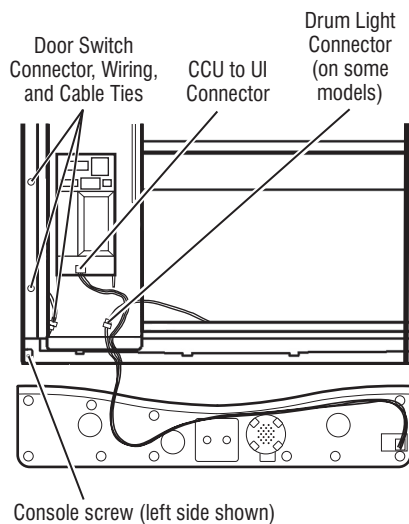

Figure 16 - Remove console.
A: Remove Console (Figure 16)
2. Disconnect the drum light harness (on some models) at the inline connector as shown in figure 16.
3. Disconnect the CCU to UI harness directly from the CCU, as shown in figure 16.
6. Disconnect door switch connector (See Figure 16, page 24).